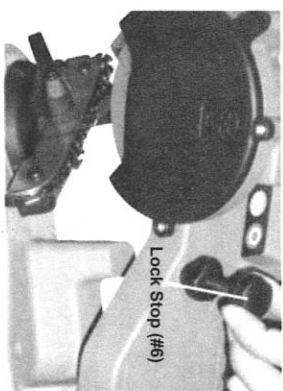

FIGURE 7
6. Hold it at that position while you tighten the **Lock Stop(#6)** so that the Wheel will only go down to that point. See FIGURE 7.
7. Depending on the amount of material you wish to remove, tighten or loosen the **Lower Knob(#26)** and set the **Lock Nut**. See FIGURES The **Lower Knob (26)** has a Lock Nut, which will determine how much material is removed. Once you set the **Lock Nut**, fully tighten the **Lower Knob(26)**.